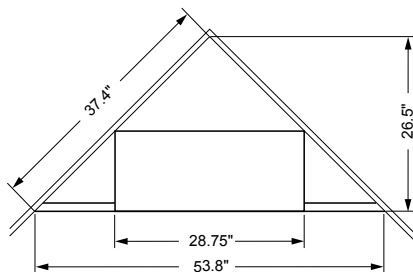

Figure 10 - Rough Opening for Corner Installation
1. Frame in rough opening. Use dimensions shown in Figure 9 for the rough opening. If installing in a corner, use dimensions shown in Figure 10 (page 13) for the rough opening. The height is 26 1/2", which is the same as the wall opening above.